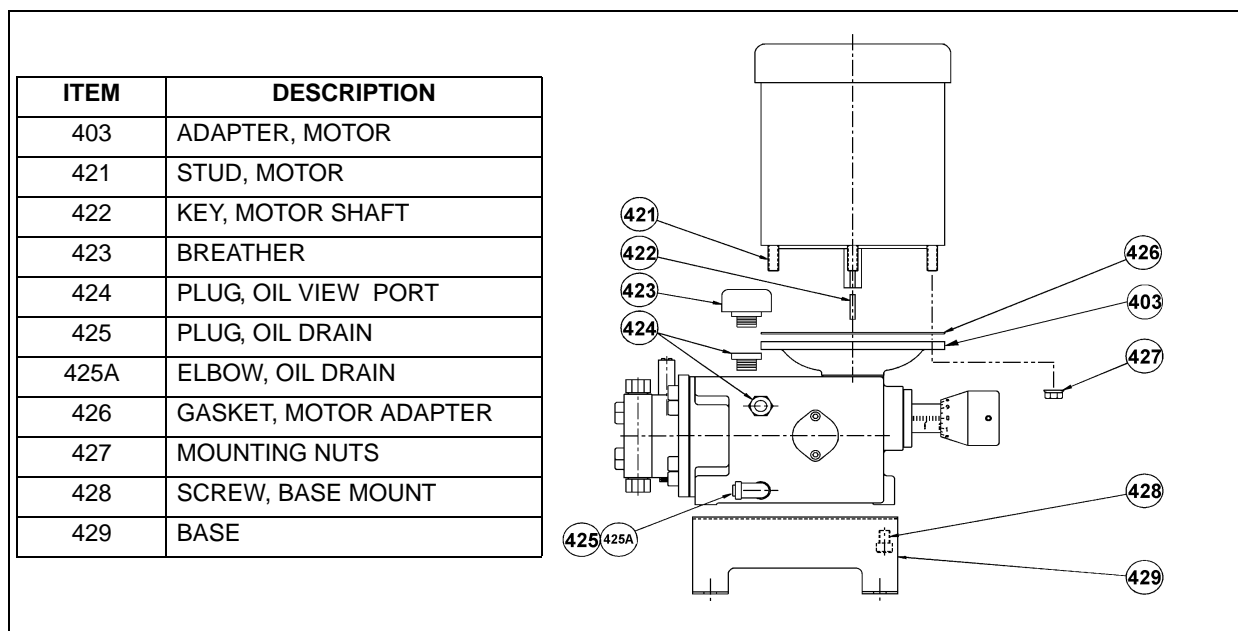

Figure 3. Drive Motor
4.3 DRIVE MOTOR (FIGURE 3)
2. Remove four (4) 3/8 in. (9.5 mm) attachment nuts from motor studs (421). Evenly lift motor out. The motor shaft is coupled to worm shaft with a 3/16 in. (7.8 mm) square 0.81 in. key (422). (Figure 3).
3. When motor is replaced transfer (4) studs (421) to new motor.
5. Attach four (4) 3/8 in. (9.5 mm) mounting nuts to studs and tighten.